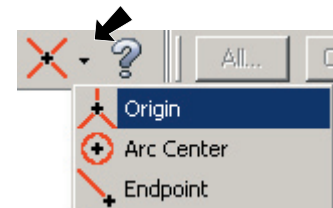

Fig. 2
Step 4. Click the down arrow in the Auto Cursor ribbon bar and click Origin  to place the rectangle, Fig. 2.